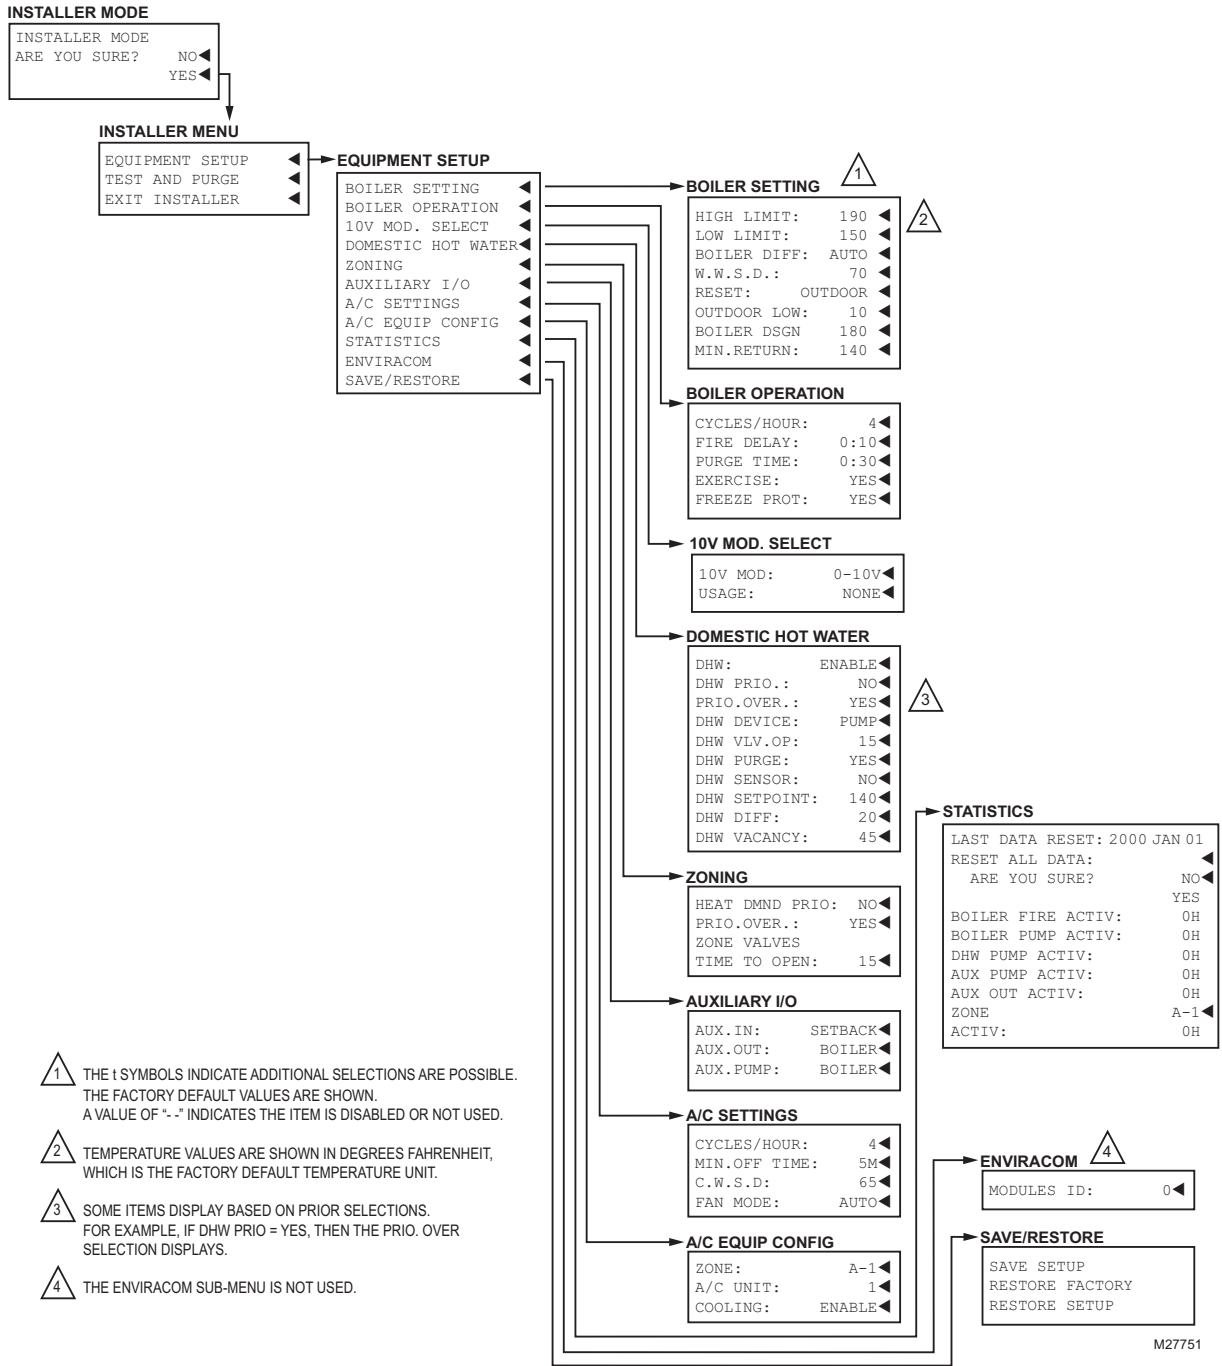
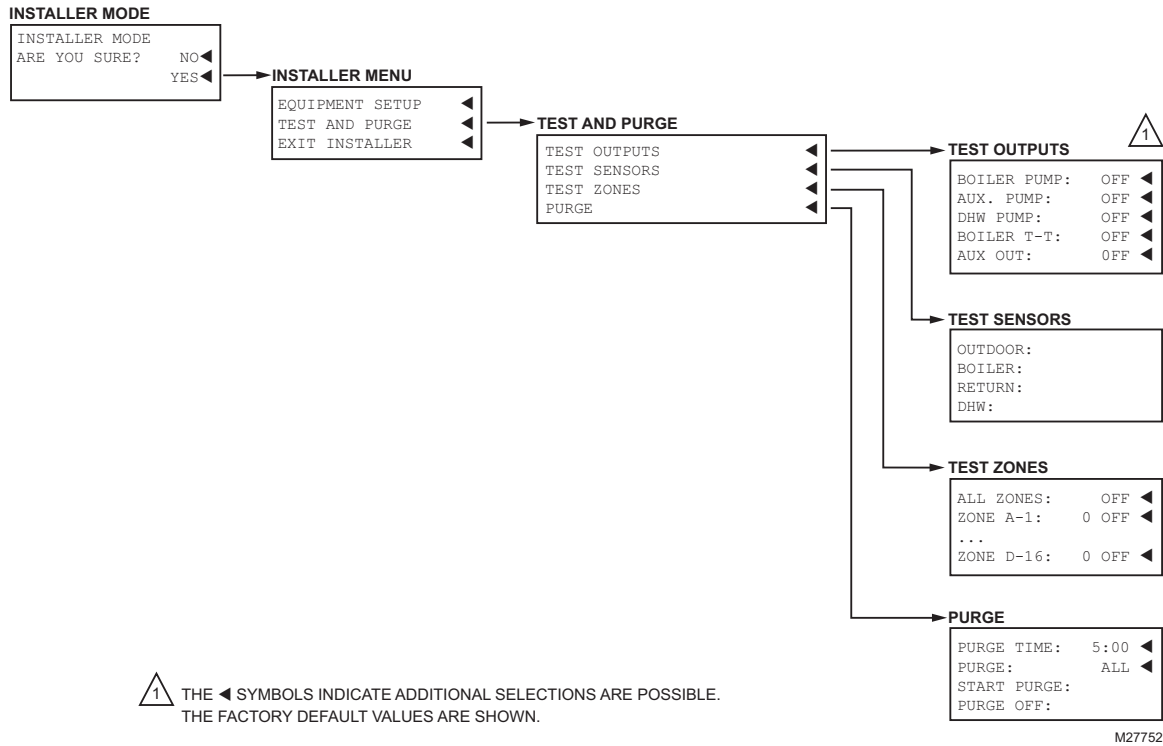

Fig. 25. Installer Menu Structure. – Equipment Setup.
Fig. 26. Installer Menu Structure. – Test and Purge.
- Installer Menu (see Fig. 25 on page 39)
To display the Installer Menu, go to the Home Page, press and hold the OK button for 3 seconds until the message INSTALLER MODE – ARE YOU SURE? displays. Select YES and press the OK button. Fig. 25 and Fig. 26 illustrate all possible Installer Menu selections.